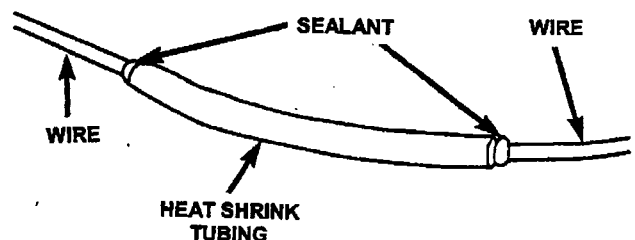

Figure 11
- h. Center the shrink tubing over the splice joint. Using a heat gun, heat the surface of the shrink tubing until the shrink tubing is tightly sealed and sealant comes out of both ends of the shrink tubing (Figure 11).